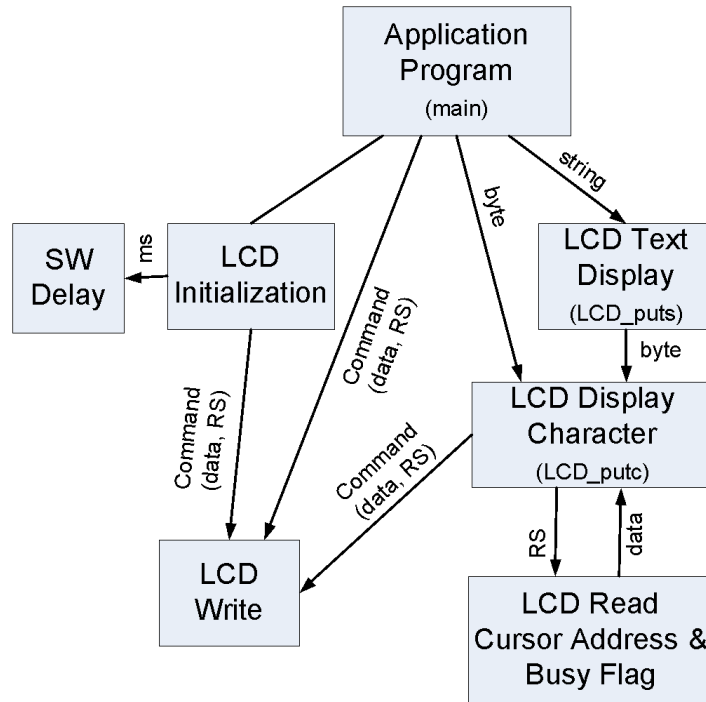

Figure B.1. Data flow diagram for the LCD control.
7. In lcd.h, generate function prototypes for the five LCD functions shown in Fig. B.1.